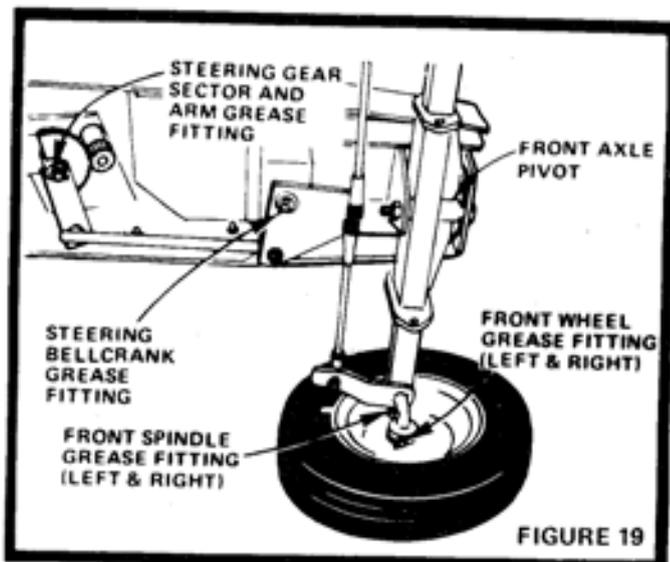

FIGURE 19
There are six Grease Fittings on your Tractor (Fig. 19). Using a Grease Gun, give each Grease Fitting two shots of Extreme Pressure Lubricating Grease Amdex No. 1 (Available through your Simpsons-Sears store).
b. Front Axle Pivot (Fig. 19)